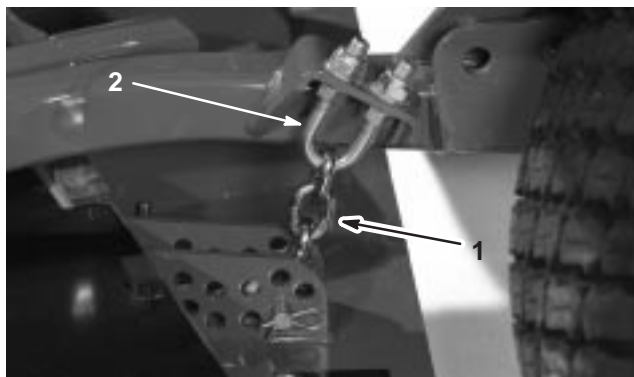

Figure 12
- Remove the hairpin cotter and clevis pin securing the height-of-cut chains to the rear of the cutting unit (Fig. 12).